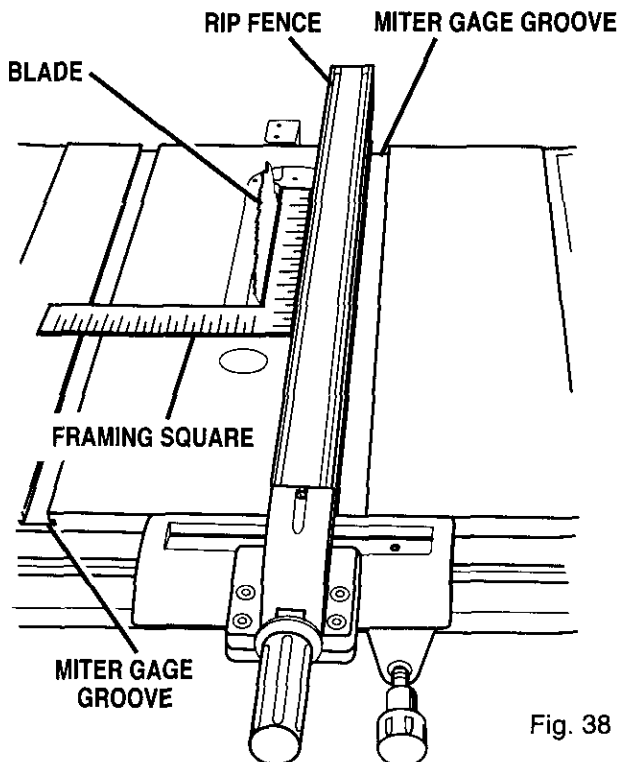

Fig. 38
See Figures 38, 39, and 40.
- Place a framing square against the rip fence, with the long end towards the front of the blade. See Figure 38. Measure the distance from the rip fence to the edge of the blade.